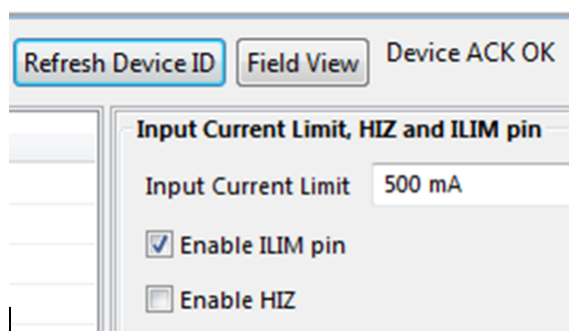

Figure 8. Select Field View
12. Choose *Field View*, as shown in Figure 8. The main window of the bq2589x software is shown in Figure 9.